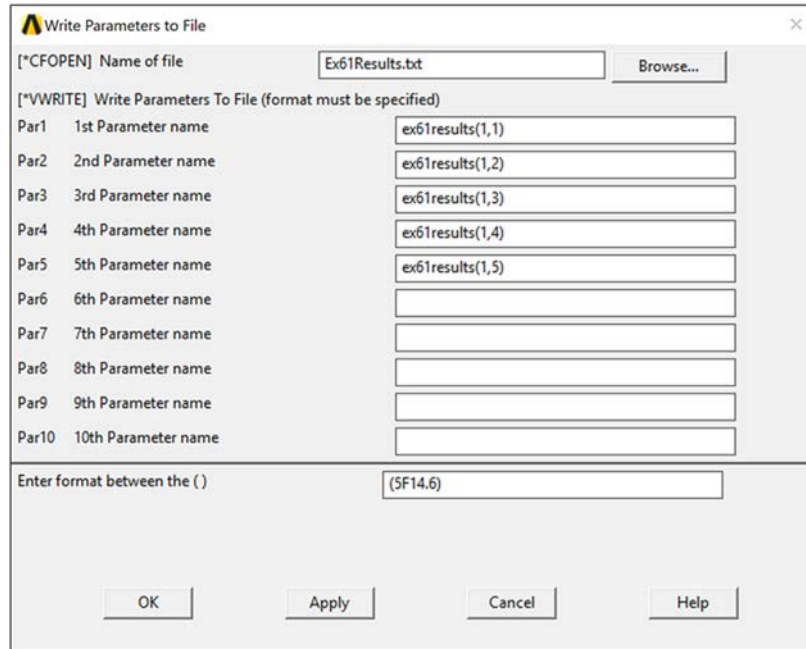

Figure 6-1-31 Write Parameters to File Dialog Box.
- In the “[*CFOPEN] Name of file” box enter “Ex61Result.txt” (Figure 6-1-31)